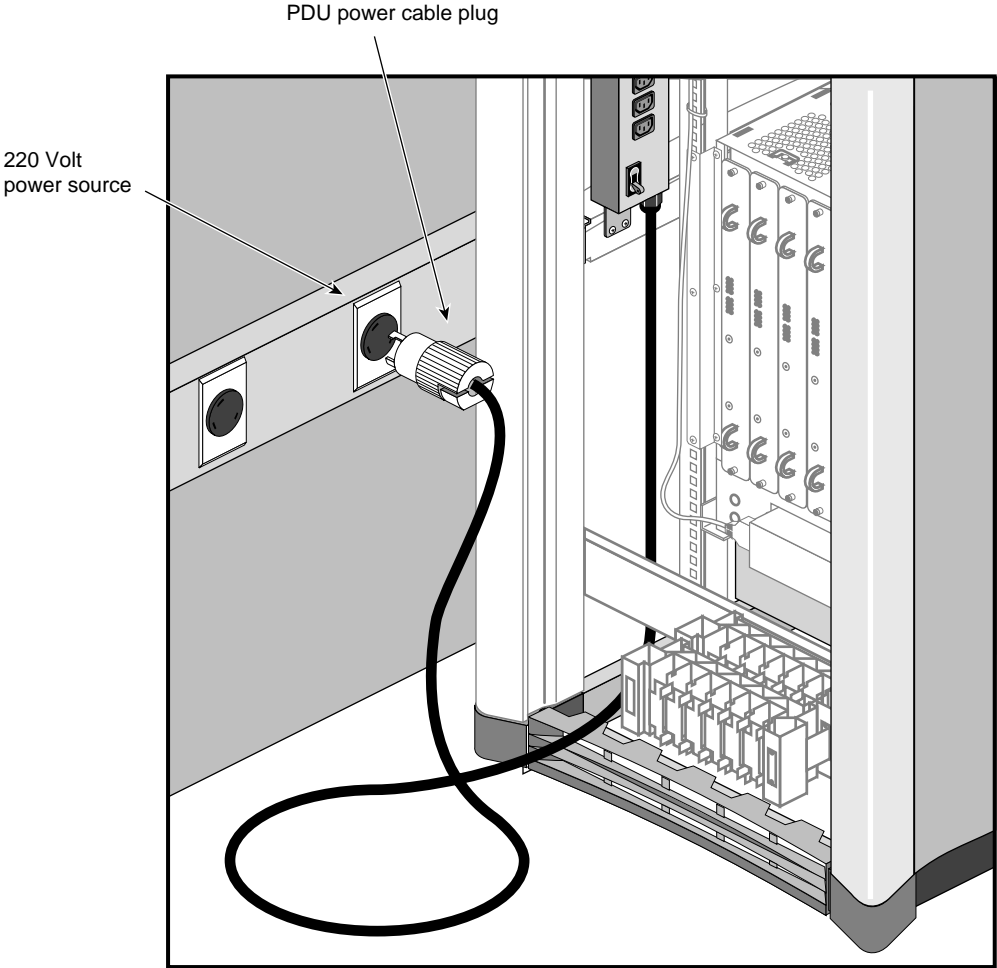

Figure 5-6 Connecting the System Power Cable
2. Insert the PDU system power cable into the 200-240 VAC wall receptacle (see Figure 5-6).
3. Connect the power cord(s) of the system module(s) into either of the top two (20-amp) receptacles of the PDU (see Figure 5-6).